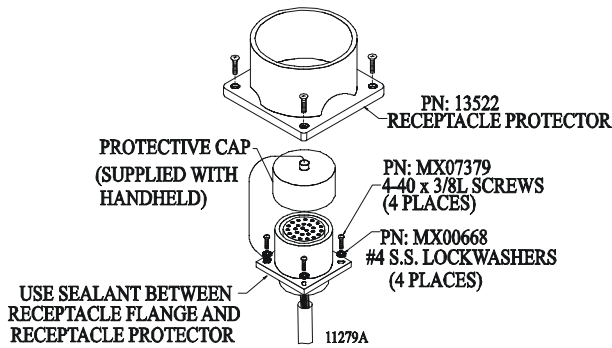

Figure 15: Receptacle Protector Assembly
- Use the supplied protective cap and chain when Receptacle is not in use by the Handheld Unit. (Refer to Figure 15:)
- If Receptacle is to be mounted on the deck or area of bulkhead that is not protected, a Receptacle Protector should be used. Refer to Figure 15:.